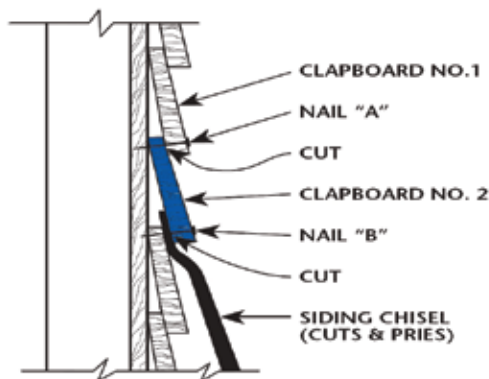

Figure 4
- The clapboard to be removed is shown as No. 2 in the drawing, Figure 4.